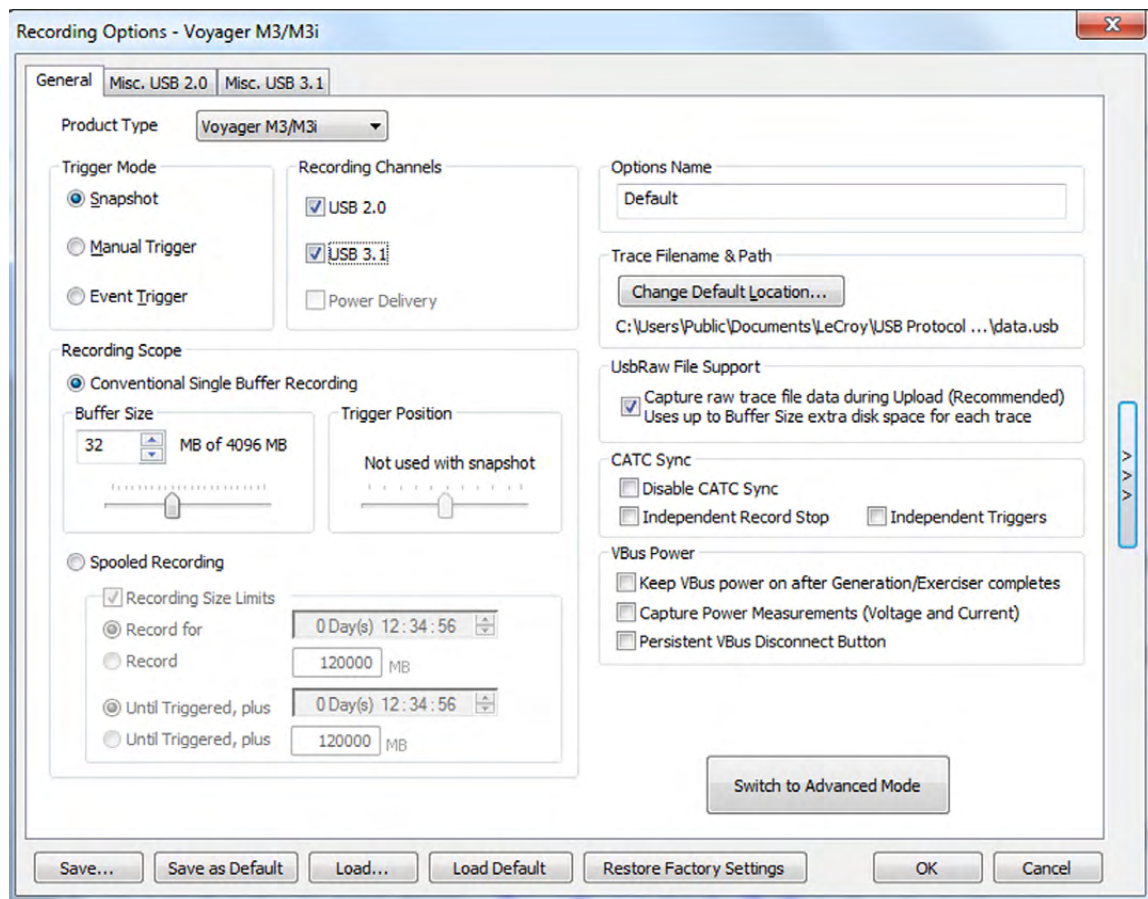

Figure 3.10: Recording Options - Voyager Dialog.
3. Select the **General** tab to display a dialog box showing factory default settings, such as Snapshot and 4 MB buffer size (see Figure 3.10 on page 104). For the first recording, you can leave these settings unchanged. Under Recording Channels, select **2.0** to record USB 2.0 traffic.